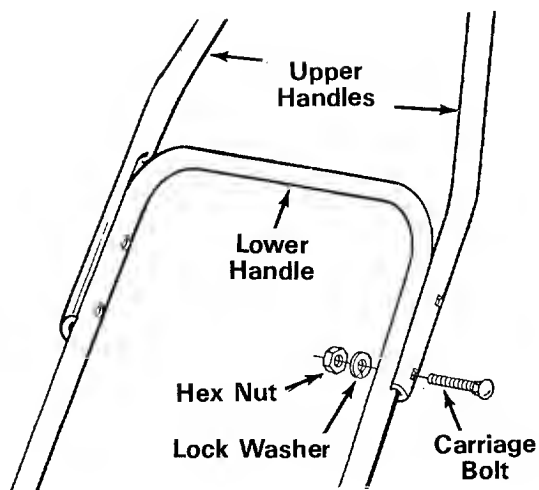

FIGURE 6
2. Assemble the two upper handles to the lower handle with four carriage bolts, lock washers and hex nuts. Tighten only finger tight at this time. See figure 6.